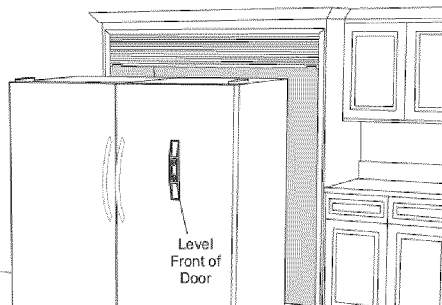

Figure 15
- Place a carpenter's level vertically on the front of the door and level so that the front surface of door is vertical. Re-check to make sure top front edge of door is still at a height of 69-3/8". Adjust as necessary. See Figures 15 and 16.